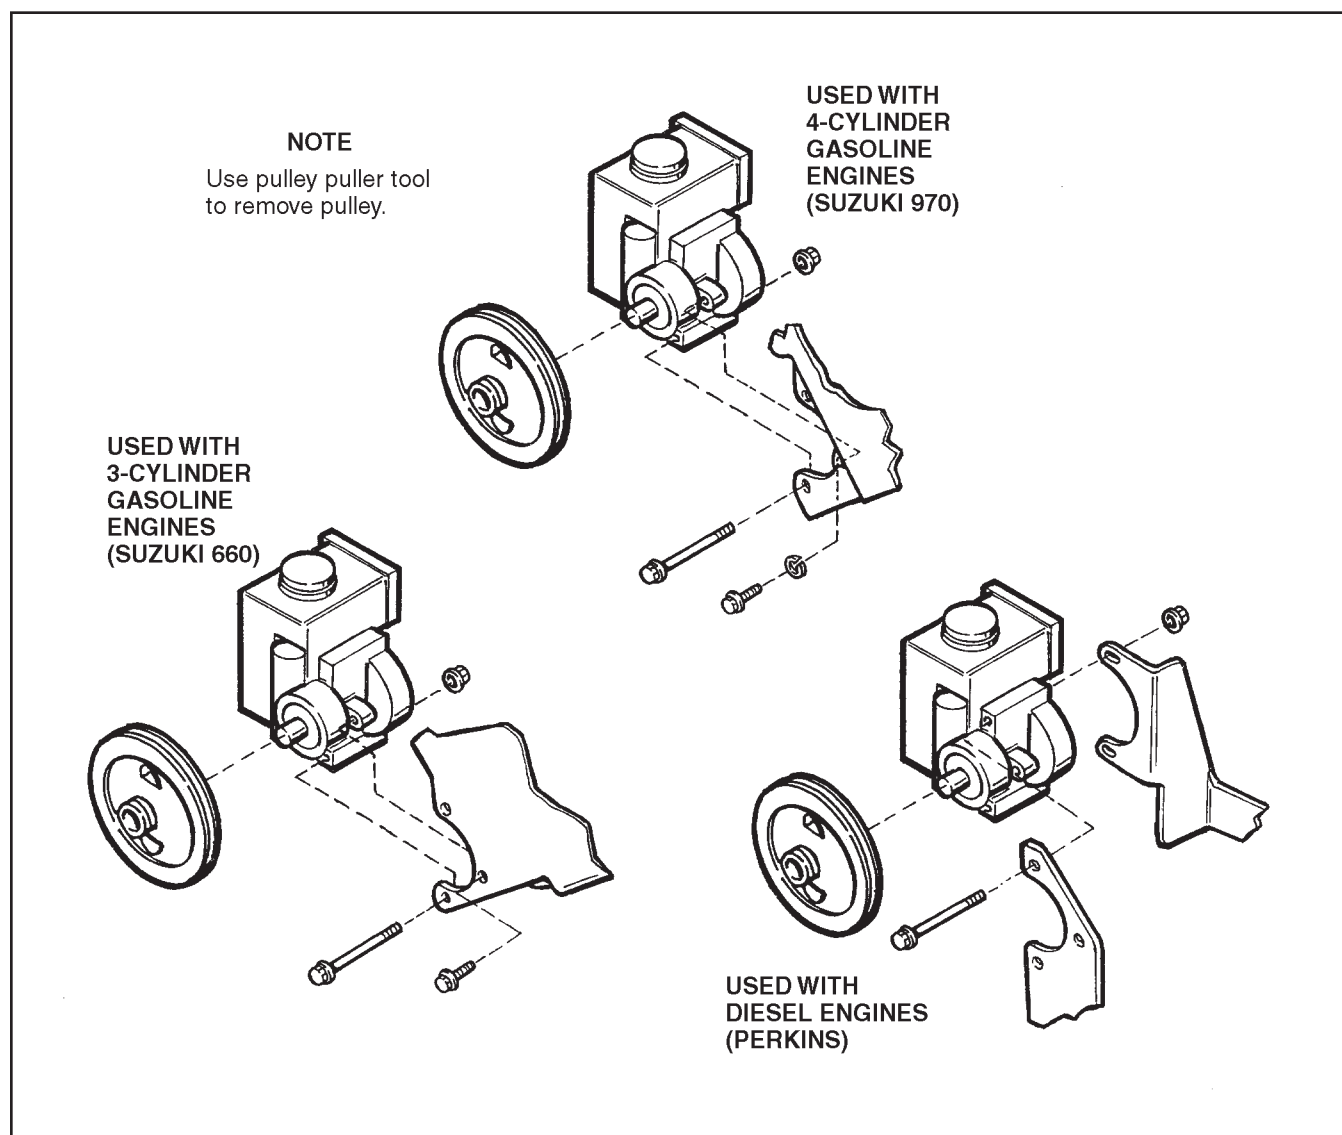

Figure 6C-5. Removal and Replacement of Steering Pumps
9. Reconnect tie rods to the pitman arm, secure with nuts and cotter pins as shown in Figure 6C-3.
10. Reconnect hoses to steering gear assembly and torque fittings as shown in Figure 6C-1.
1. Disconnect hoses at the steering pump (see Figure 6C-1). Plug and cap ports and hoses.
2. Remove pump mounting hardware, disconnect drive belt, and remove and replace the steering pump as shown in Figure 6C-5.